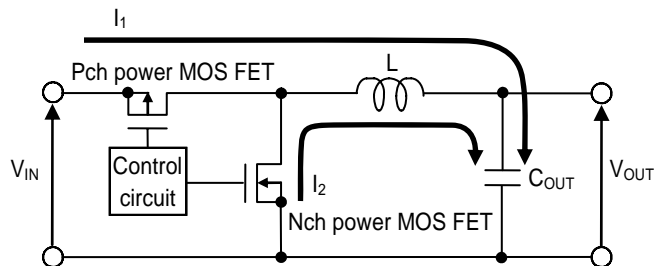
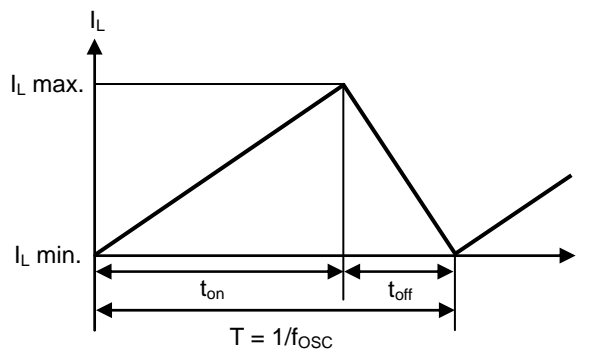

Figure 9 Basic Circuit Drawing of Step-down Switching Regulator
Figure 10 Continuous Mode (Current Cycle of Inductor Current (I_L))
The S-8550/8551 Series is a step-down synchronous rectification switching regulator based on constant PWM control. **Figure 9** shows the basic circuit diagram.
When the Pch power MOS FET is turned on, current I_L flows in the direction shown by the arrow in **Figure 9**, and energy is stored in the inductor (L). When the output capacitor (C_{OUT}) is charged, supply of the output current (I_{OUT}) is started at the same time. The inductor current (I_L) gradually increases in proportion to the ON time (t_{ON}) of the Pch power MOS FET as shown in **Figure 10** (changes from I_L min. to I_L max.). When the Pch power MOS FET is turned off, the Nch power MOS FET is turned on and I_L tries to hold I_L max. Consequently, current I_2 flows in the direction shown by the arrow in **Figure 9**. As a result, I_L gradually decreases and reaches I_L min. when the OFF time (t_{OFF}) has elapsed. When t_{OFF} has elapsed, the Nch power MOS FET is turned off and the next cycle is entered. The above sequence is repeated.